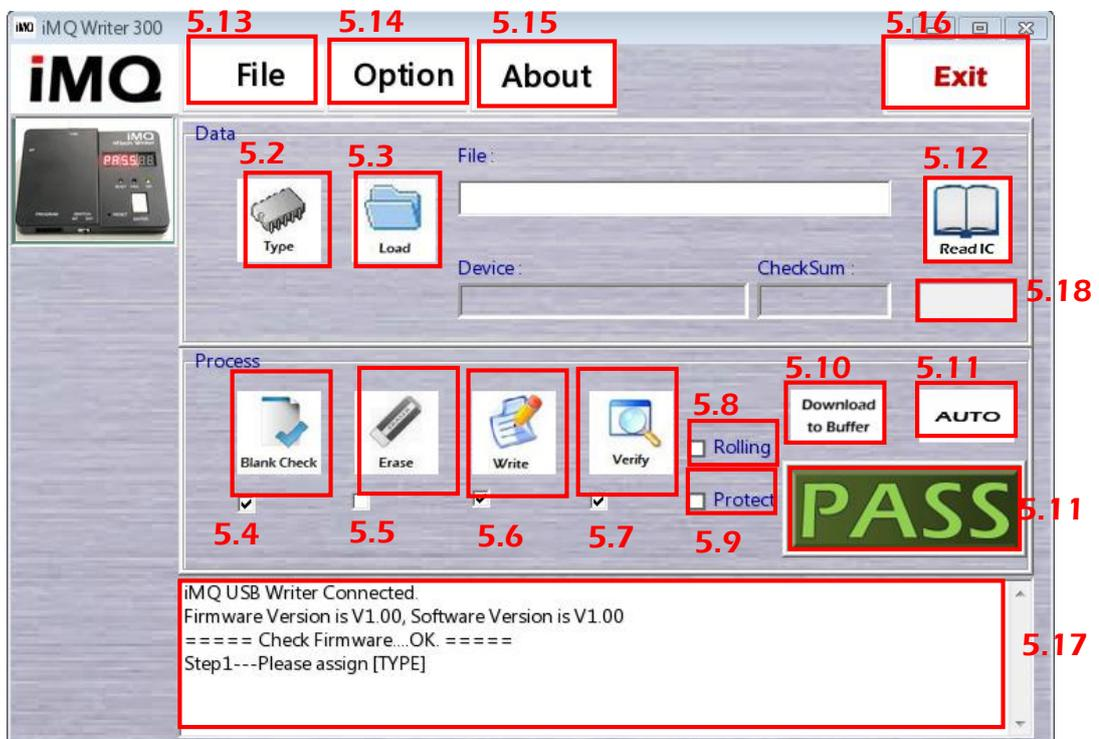

Figure 5-1
- (2) Connect PC and Flash Writer by USB cable.
- (3) Start the software of Flash Writer, then entry the main page (as Figure 5-1). When Flash Writer connect to PC successfully, it will shows the picture of Flash Writer. If the connection fail, it will not shows the picture.
- (4) The function keys in the main page are described as following chapters.